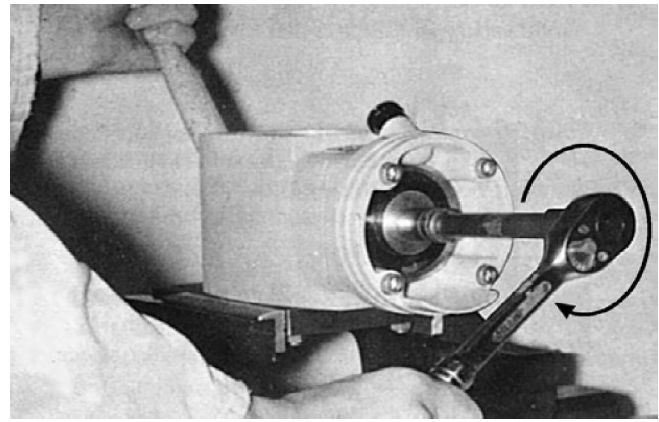

Fig. 14.
7. Rotate the gear in its correct direction of rotation (clockwise) while braking the gear hard at the same time by pushing against the taper on the gear with a wooden handle. See Fig. 14. The marking paint on the gear teeth is then pressed off from the surfaces where the teeth mesh and this gives a picture of the tooth contact pattern and its position.